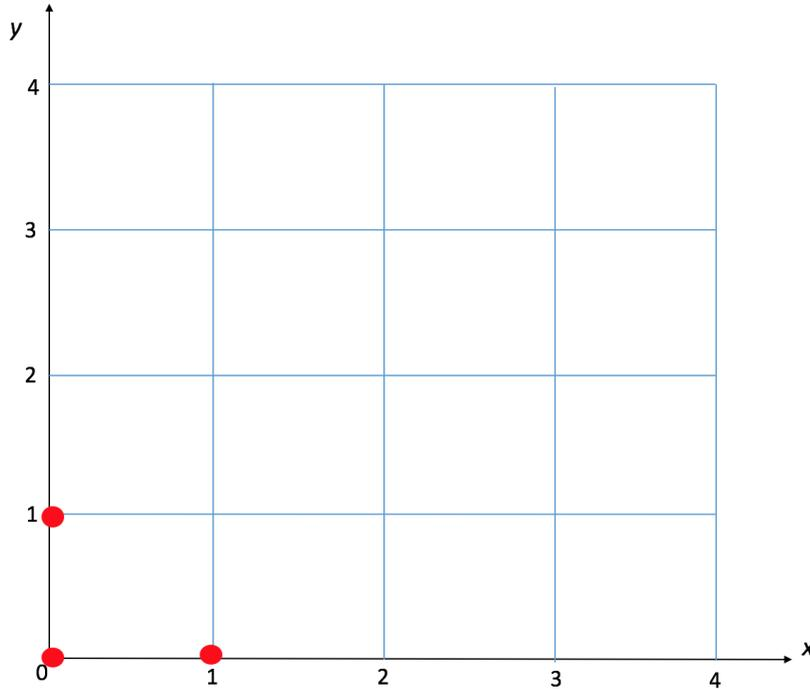

Fig. 2: Simplex evolution of the Spendley *et al.* algorithm applied to the maximization of the f function described in question 3).
3) Let us consider the SIMPLEX method in its basic 1962 formulation, that is making use of the reflection operator only. It is applied to the maximisation of the function $f(x, y) = x^2 + 3xy + 2y^2 + 1$. Assume the initial simplex corresponds to the three designs plotted as red circles in Fig. 2.
- Draw in Fig. 2, explaining carefully how you proceed, the simplex associated with 3 successive iterations of the algorithm run from this initial simplex.